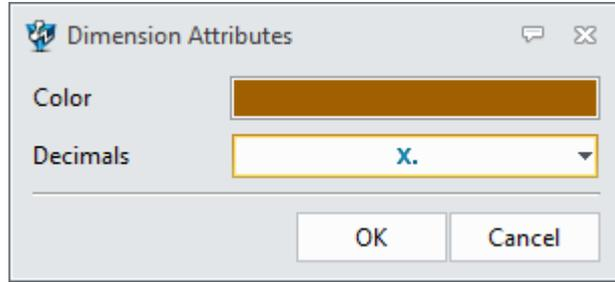

Figure 99 Set Dimension Attribute
STEP 01 Set the sketch dimension attribute. See the Figure 99.